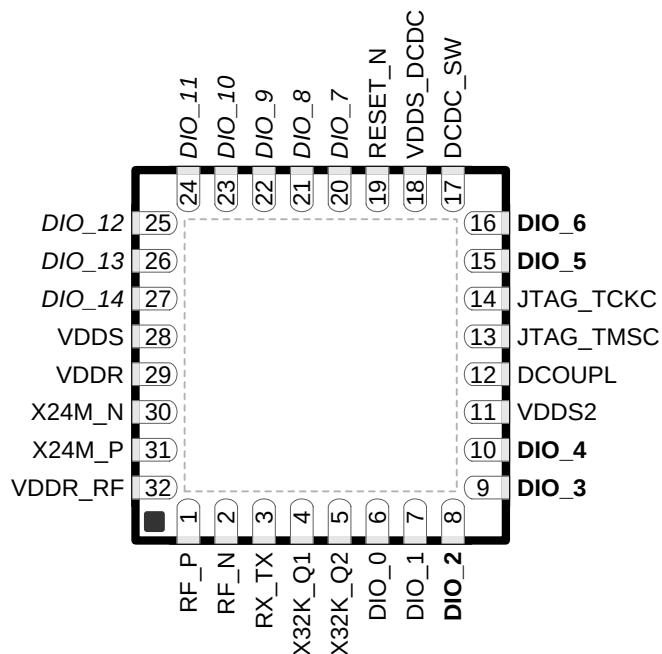

**Figure 4-2. RHB (5-mm × 5-mm) Pinout, 0.5-mm Pitch
• Changed Figure 4-2 , corrected typo in pin name	10
Figure 4-2 shows the RHB pinout diagram.
I/O pins marked in Figure 4-2 in **bold** have high-drive capabilities; they are as follows:
I/O pins marked in Figure 4-2 in *italics* have analog capabilities; they are as follows: